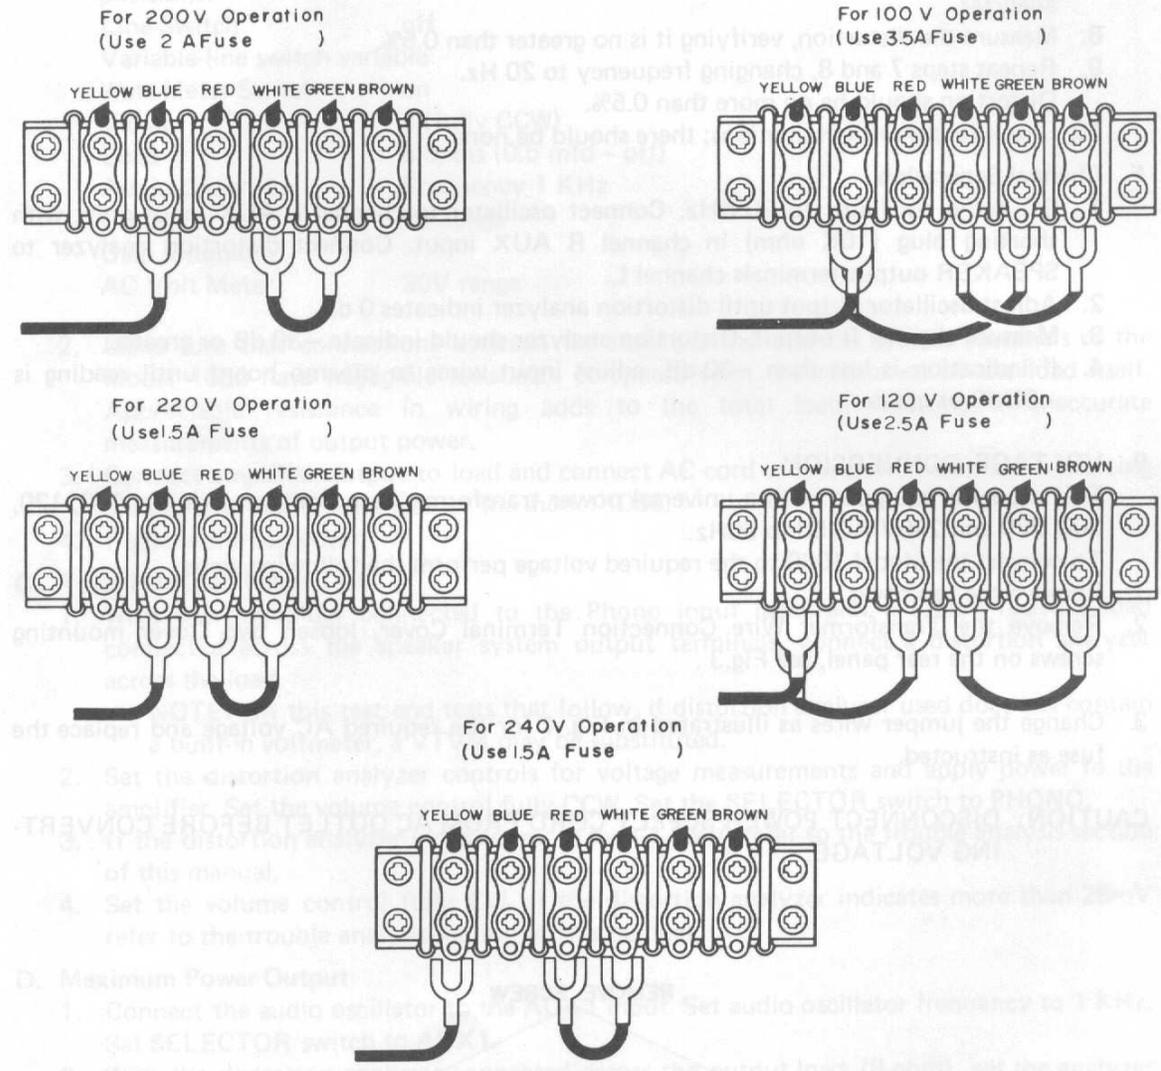

Figure 4. Voltage Conversion Chart
3. Change the jumper wires as illustrated in Fig. 4 for the required AC voltage and replace the fuse as instructed.